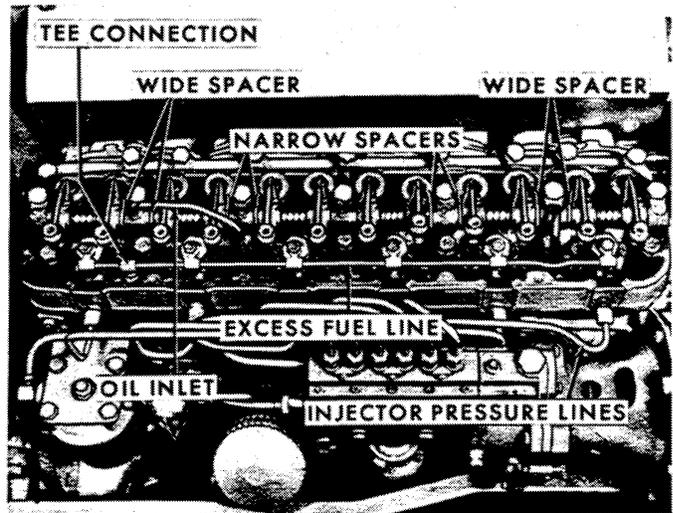

Figure 3
- a. Loosen the excess fuel line "T" fitting from the cylinder head, Figure 3. Remove the fuel line banjo fitting bolt from each injector and remove the fuel line. Remove the grommet from the cylinder head beneath the "T" connection.
NOTE: Diesel engines are provided with a rocker arm spacer on each side of Nos. 2, 3, 5, and 6 rocker shaft supports, Figure 3. The narrower spacers are used at support Nos. 3 and 5.
3. Assemble the rocker arms, springs, and brackets in the sequence shown in Figure 3.
NOTE: Diesel engines use eight spacers to locate the rocker arms. Make certain that the two narrower spacers are installed at Nos. 3 and 5 supports and the wider spacers are at Nos. 2 and 6 supports, Figure 3.